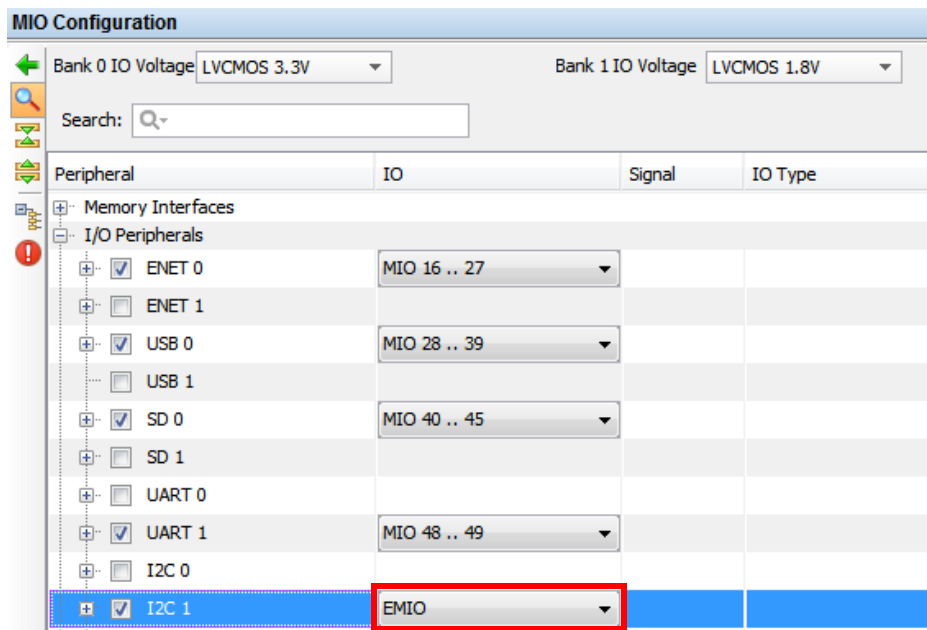

Figure 5.10: Configuring the I2C interface
- (g) Enable the **I2C 1** peripheral in the *MIO Configuration* panel. **EMIO** should automatically be selected for **IO**, as shown in Figure 5.10.
The IP Integrator canvas should update, and the Zynq7 Processing System block should now look like Figure 5.10.